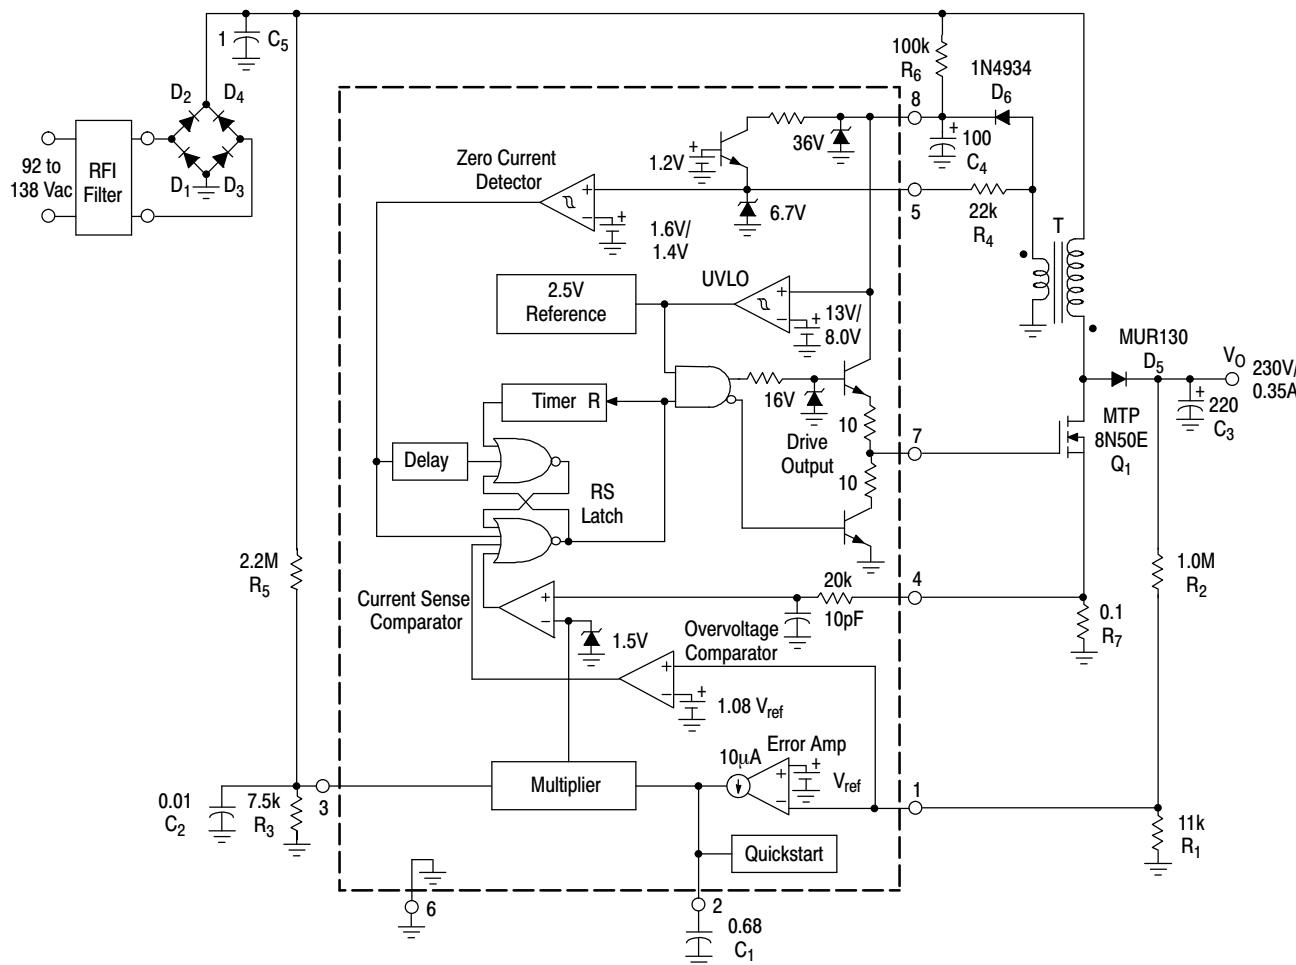
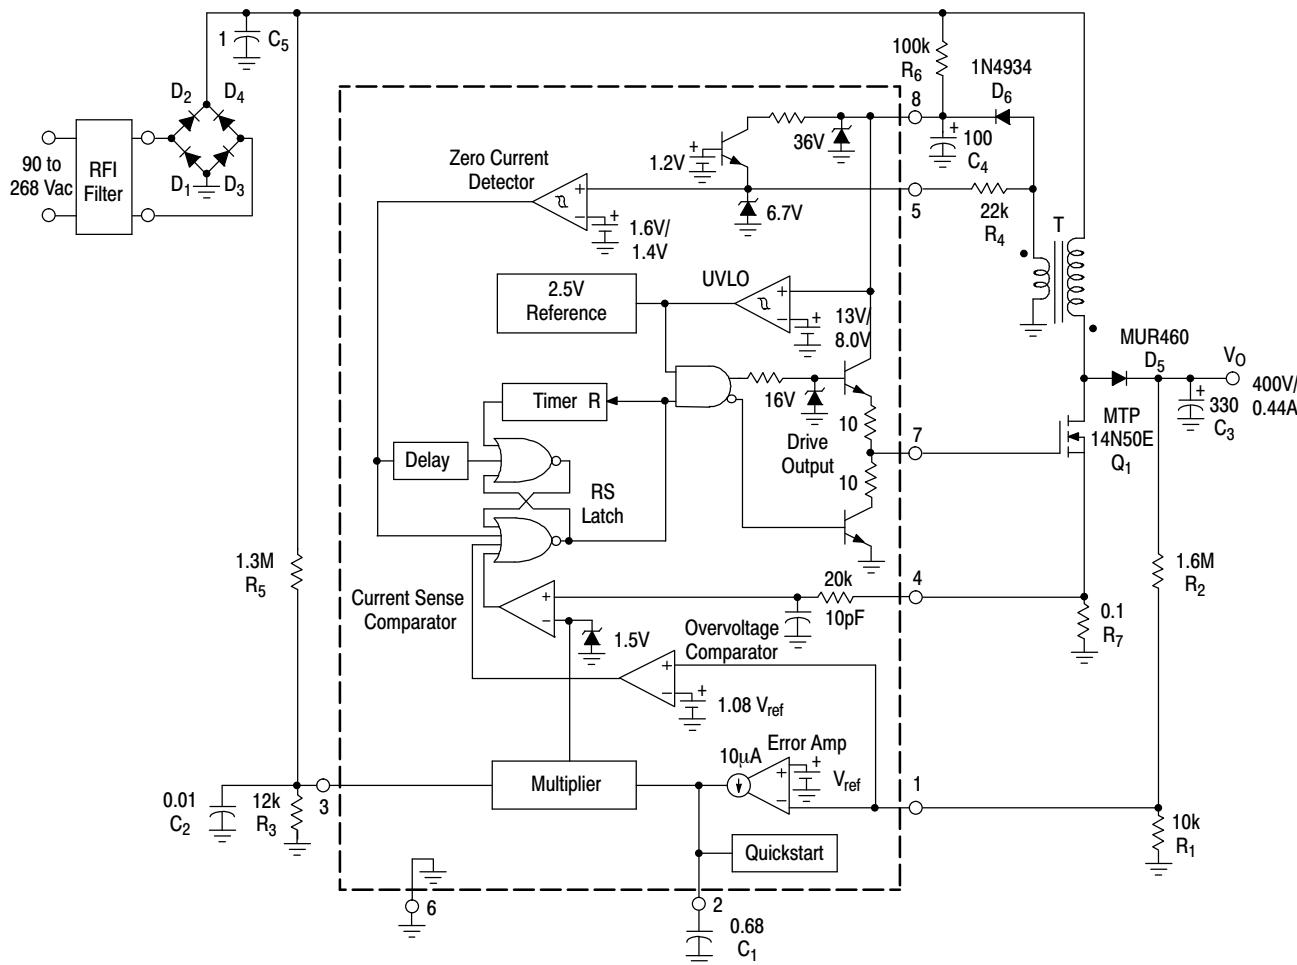
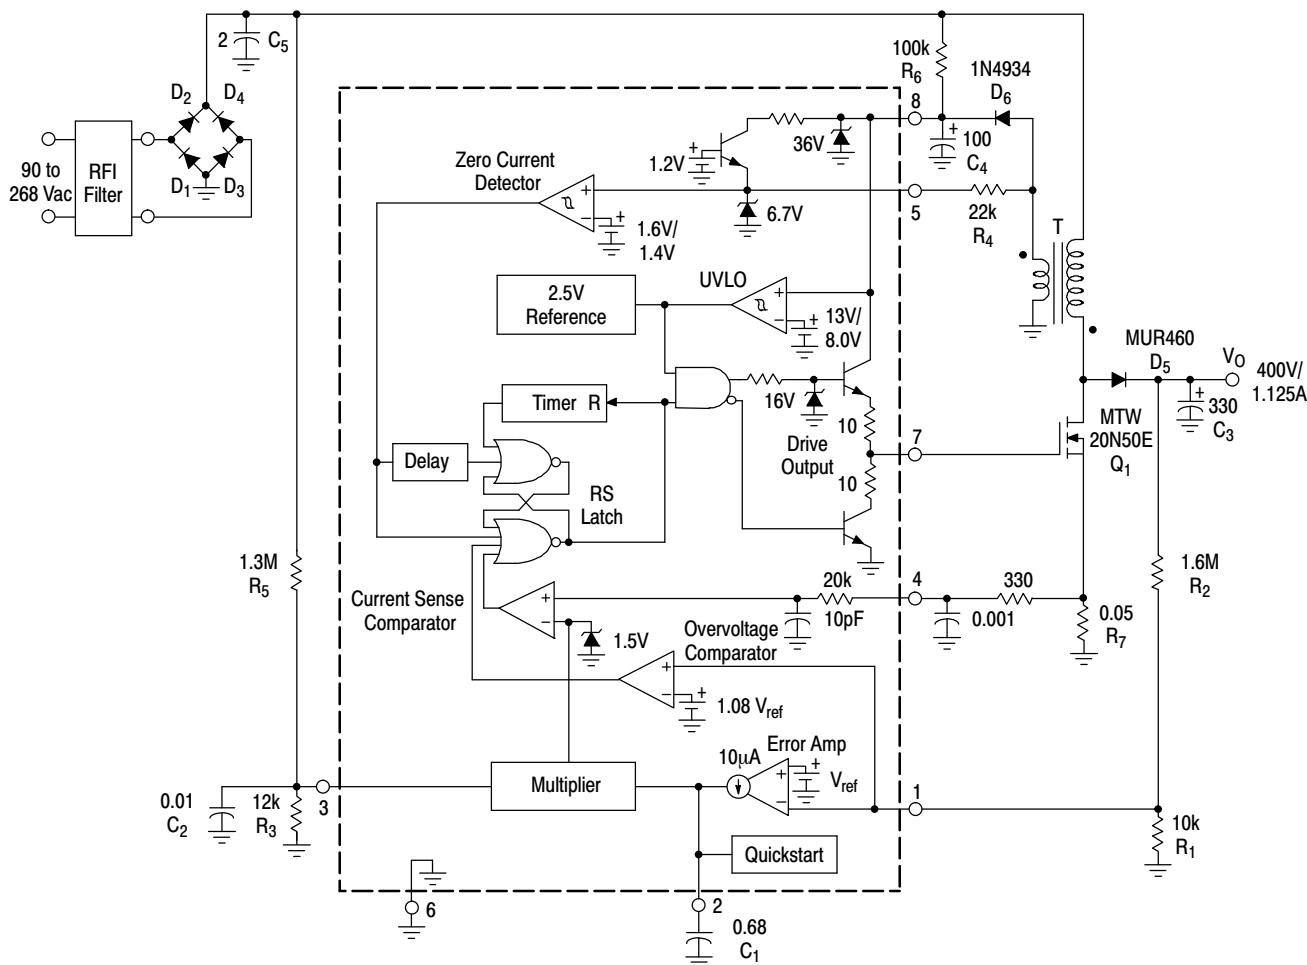
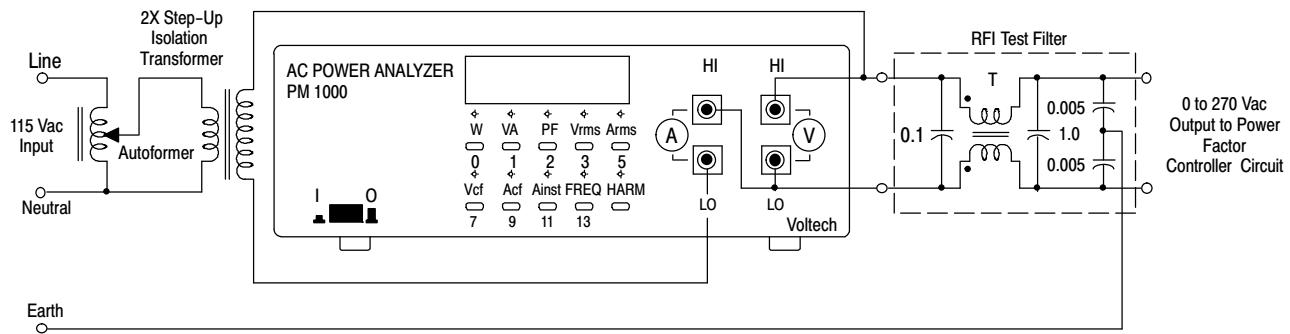

Figure 20. 80 W Power Factor Controller
Figure 21. 175 W Universal Input Power Factor Controller
Figure 22. 450 W Universal Input Power Factor Controller
Figure 25. Power Factor Test Set-Up
UC3842 series. Referring to the block diagrams in Figures 20, 21, and 22 note that a multiplier has been added to the current sense loop and that this device does not contain an oscillator. The reasons for these differences will become apparent in the following discussion. A description of each of the functional blocks is given below.
An internal RC filter has been included to attenuate any high frequency noise that may be present on the current waveform. This filter helps reduce the ac line current distortion especially near the zero crossings. With the component values shown in Figure 21, the Current Sense Comparator threshold, at the peak of the haversine varies from 1.1 V at 90 Vac to 100 mV at 268 Vac. The Current Sense Input to Drive Output turn-off propagation delay is typically less than 200 ns.
The application circuits shown in Figures 20, 21 and 22 reveal that few external components are required for a complete power factor preconverter. Each circuit is a peak detecting current-mode boost converter that operates in critical conduction mode with a fixed on-time and variable off-time. A major benefit of critical conduction operation is that the current loop is inherently stable, thus eliminating the need for ramp compensation. The application in Figure 20 operates over an input voltage range of 90 Vac to 138 Vac and provides an output power of 80 W (230 V at 350 mA) with an associated power factor of approximately
0.998 at nominal line. Figures 21 and 22 are universal input preconverter examples that operate over a continuous input voltage range of 90 Vac to 268 Vac. Figure 21 provides an output power of 175 W (400 V at 440 mA) while Figure 22 provides 450 W (400 V at 1.125 A). Both circuits have an observed worst-case power factor of approximately 0.989. The input current and voltage waveforms of Figure 21 are shown in Figure 23 with operation at 115 Vac and 230 Vac. The data for each of the applications was generated with the test set-up shown in Figure 25.
This data was taken with the test set-up shown in Figure 25.
(Figure 21 Circuit)**
An RFI filter is required for best performance when connecting the preconverter directly to the ac line. The filter attenuates the level of high frequency switching that appears on the ac line current waveform. Figures 20 and 21 work well with commercially available two stage filters such as the Delta Electronics 03DPCG5. Shown above is a single stage test filter that can easily be constructed with four ac line rated capacitors and a common-mode transformer. Coilcraft CMT3-28-2 was used to test Figures 20 and 21. It has a minimum inductance of 28 mH and a maximum current rating of 2.0 A. Coilcraft CMT4-17-9 was used to test Figure 22. It has a minimum inductance of 17 mH and a maximum current rating of 9.0 A. Circuit conversion efficiency η (%) was calculated without the power loss of the RFI filter.
(Circuits of Figures 20 and 21)**